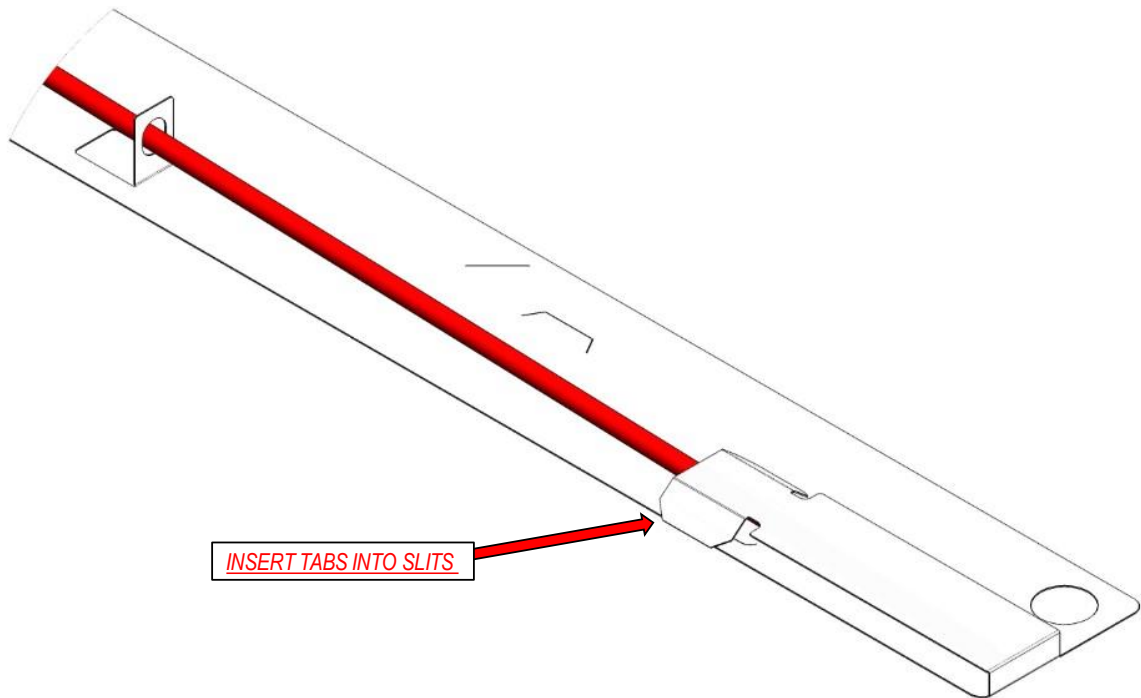

Figure 3: Feed Shaft through eyelet and into pocket formed at right side of card.
3. Place Robotic Instrument onto Robotic Arm Sterilization Card (figure 3).